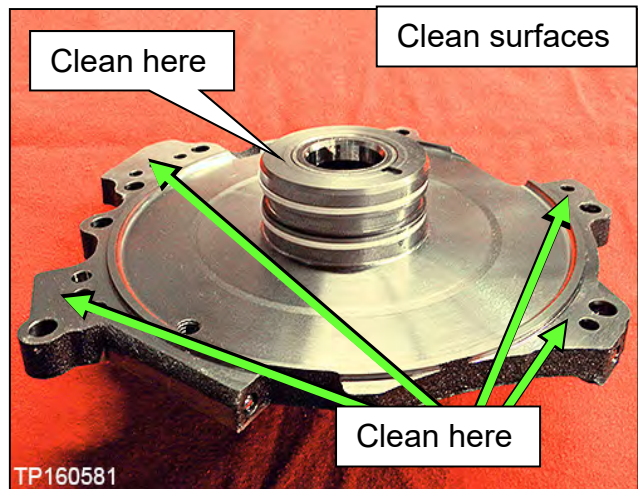

Figure 127
- a. Clean the dummy cover surfaces that contact the CVT case and thrust bearing (Figure 127).